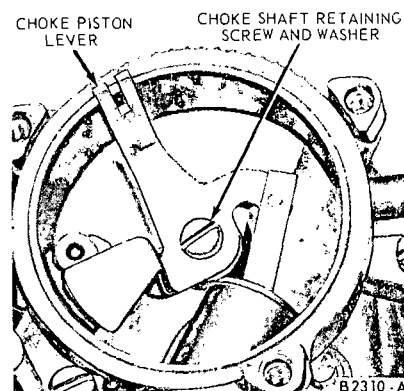

FIG. 11—Choke Shaft and Lever
4. Remove the choke lever retaining screw and washer (Fig. 11). Remove the choke piston lever from the housing. If necessary, remove the